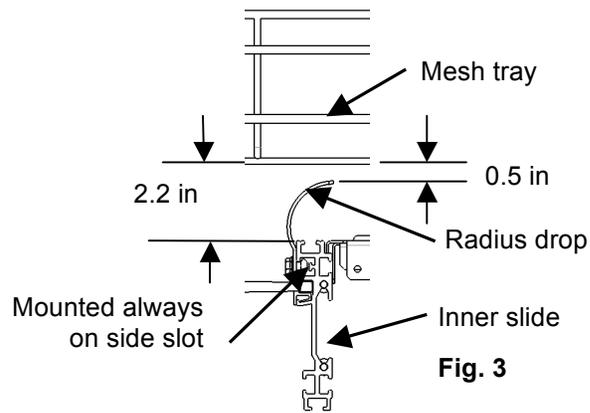

Fig. 3
1. Position Radius Drop on a top slide of the cabinet (Fig. 3 & 5).
2. Fasten it by using M6 X 10mm screws with drop-in-nut at side slot (Fig. 3 & 5).
3. Maintain the gap between mesh tray and Radius Drop to be 2.2in (56 mm) (Fig. 3) to avoid interference.